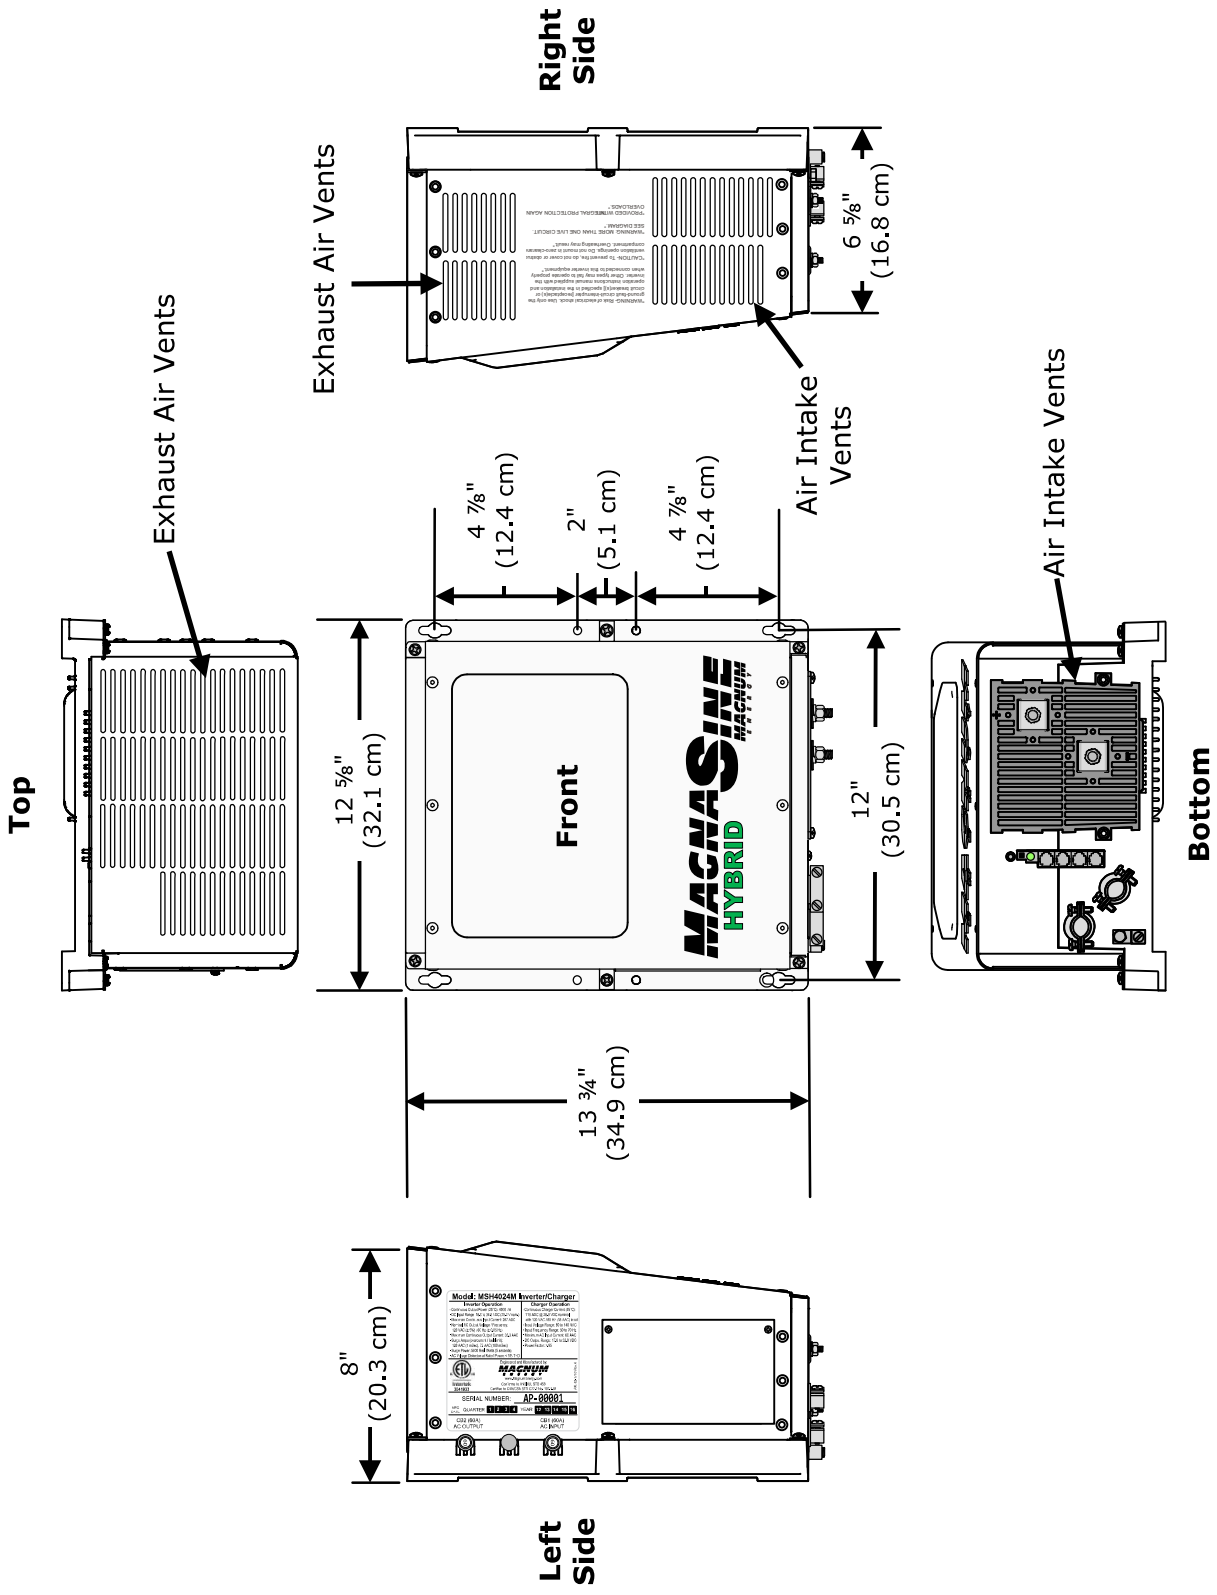

Figure 2-3, MSH-M Series Dimensions and Side References
- 9** **Intake Air Vents** – ventilation openings to pull in air to help keep the inverter cool for peak performance. The intake air vents are located on the front side and at the front on the right side; also see Figure 2-3 for the location of the air vents.
- 13 Exhaust Air Vents** – ventilation openings that allow heated air to be removed by the internal cooling fan. The exhaust air vents are located on the back side and at the rear on the right side; also see Figure 2-3 for the location of the air vents.
Accessible – Do not block access to the inverter's remote control and accessory ports, as well as the inverter's controls and status indicator. Allow enough room to access the AC and DC wiring terminals and connections, as they will need to be checked and tightened periodically. See Figure 2-3 for the MSH-M Series inverter/charger's dimensions.
After determining the mounting position, refer to the physical dimensions as shown in Figure 2-3, or use the base of the inverter as a template to mark your mounting screw locations. After marking the mounting screw locations, mount the unit with appropriate mounting hardware.